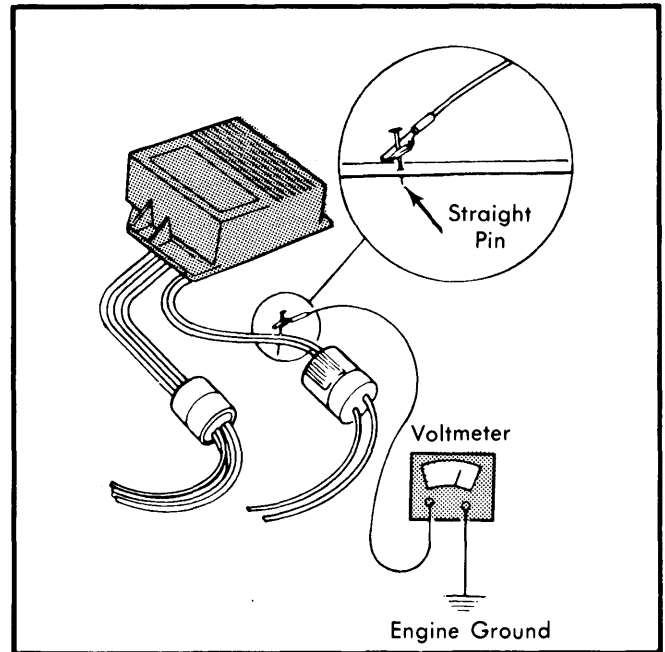

Fig. 5 Checking Control Module Feed (Red or White Wire Circuits)
Red Wire Circuit — 1) If no spark occurred in step 3) of Basic System Check, measure battery voltage. Then using a straight pin, puncture red wire of control module's 2-wire harness (between module and connector). See Fig. 5. Connect voltmeter positive lead to straight pin and negative lead to ground. Voltage on red wire should be within 1.0 volt of battery voltage. If so, proceed to step 1) of Coil Primary Circuit Check.
2) If voltage is OK, crank engine and check for sparks at modified plug. If sparks occur, ignition system is OK. If none occurs, puncture white wire with a straight pin between control module and 2-wire connector. See Fig. 5. Connect positive lead of voltmeter to straight pin and negative lead to ground. Crank engine. Voltage should be within 1.0 volt of battery voltage.